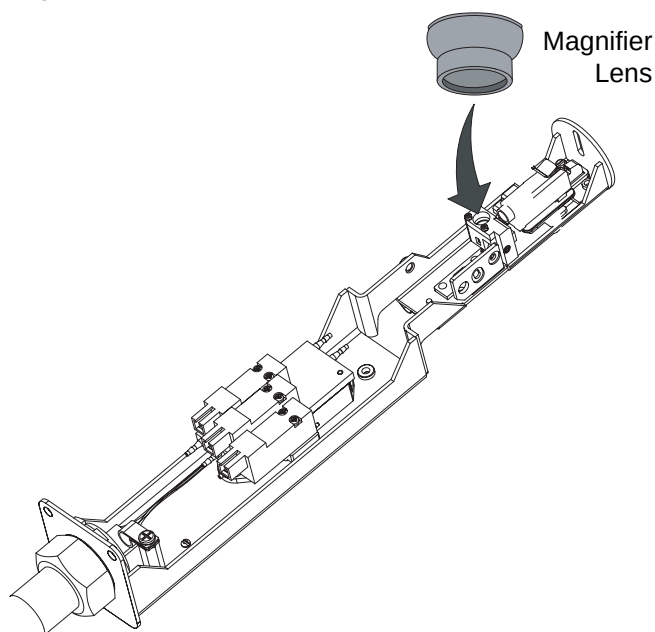

Figure 6-26: Positioning the Magnifier Over the Charge Electrode
- 6 Hold the magnifier over the charge electrode viewport as shown in Figure 6-26.